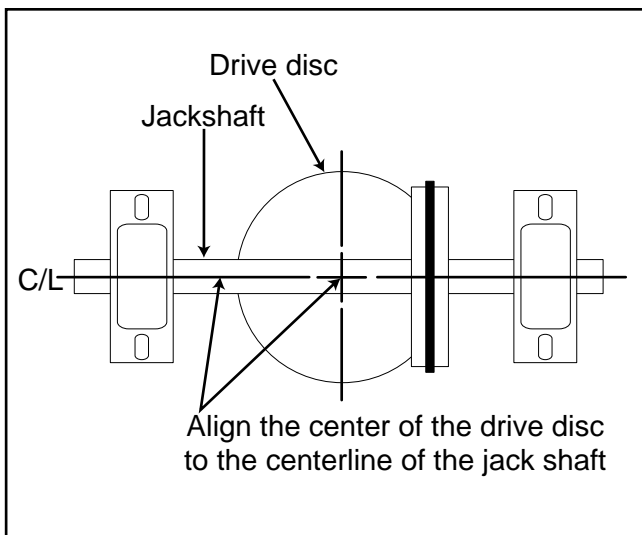

Figure 5.
9. Align the center of the motor drive disc to the centerline of the jack shaft. **Figure 5.** Tighten the motor mount bolts.